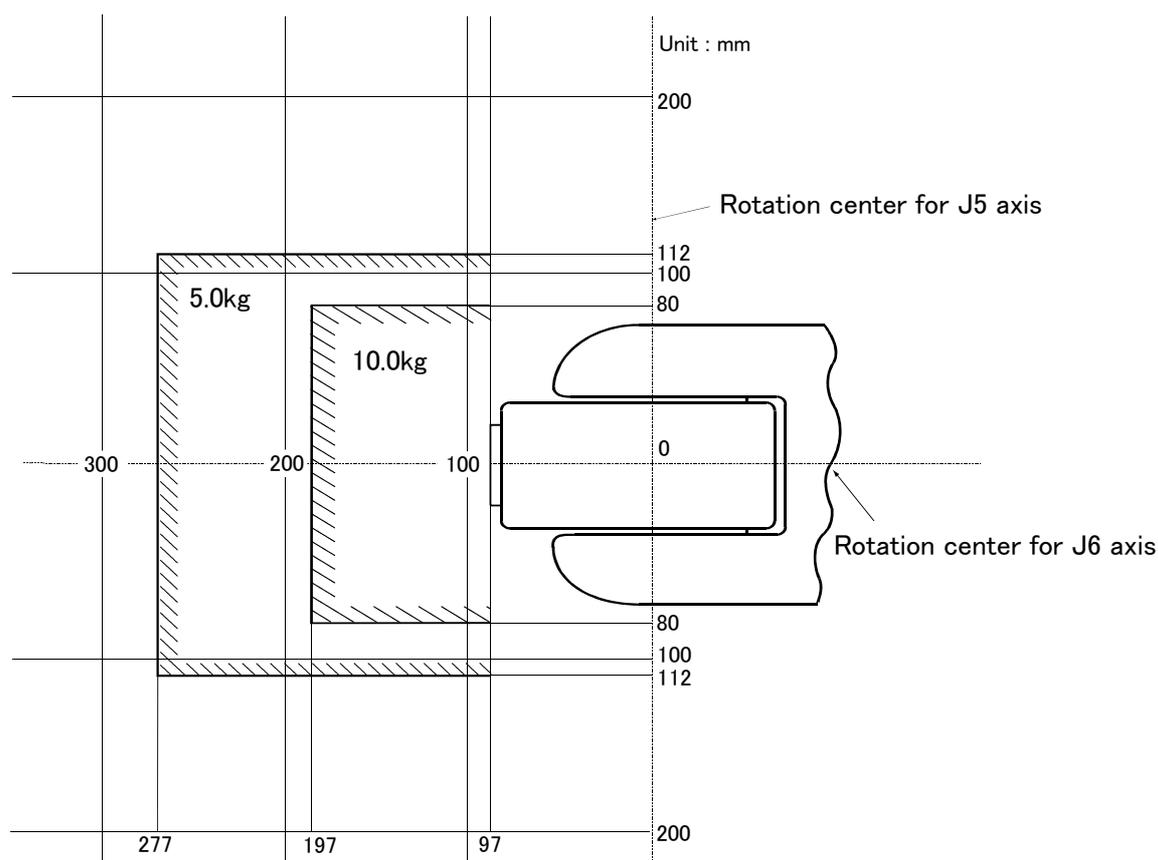

Fig.2-1 : Position of center of gravity for loads (for loads with comparatively small volume): RV-12SD/12SDLSeries
- (1) The tooling should have the value less or equal than the smaller of the tolerable inertia and the tolerable moment found in Page 3, "Table 2-1 : Tab Standard specifications of robot"
- (2) Fig. 2-1 shows the distribution dimensions for the center of gravity in the case where the volume of the load is relatively small. Use this figure as a reference when designing the tooling.
- (3) When the load is not mass, but force, you should design the tooling so that it does not exceed the value for allowable moment described in Page 3, "Table 2-1 : Tab Standard specifications of robot"